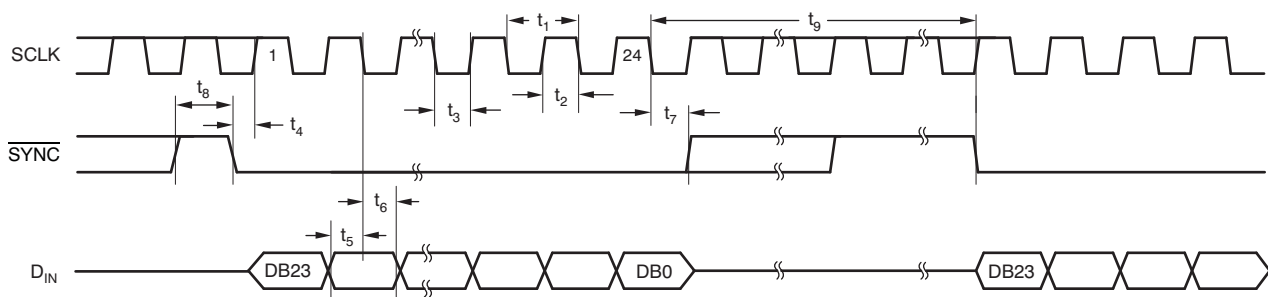

Figure 1. Serial Write Operation
- (1) All input signals are specified with tR = tF = 5 ns (10% to 90% of VDD) and timed from a voltage level of (VIL + VIH) / 2.
- (2) See Figure 1.
- (3) Maximum SCLK frequency is 30 MHz at VDD = 3.6 V to 5.5 V and 20 MHz at VDD = 2.7 V to 3.6 V.